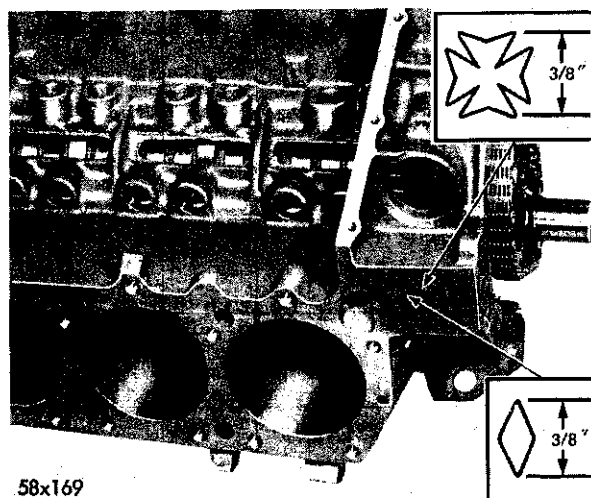
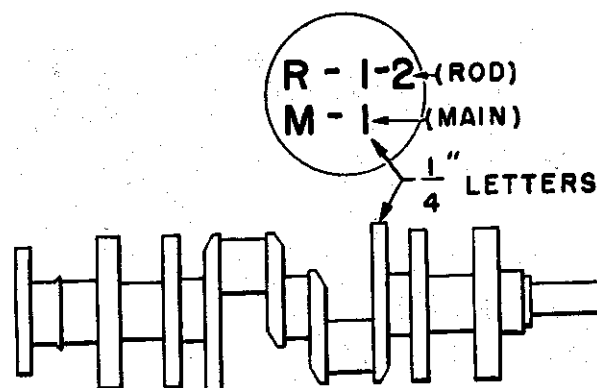

Fig. 43—Showing Location of the External Engine Numbering Pad
Fig. 44—Showing Location of Mark of No. 3 Counterweight
**IMPORTANT:** A Maltese Cross stamped on the engine numbering pad (Fig. 43) indicates that engine is equipped with a crankshaft which has one or more connecting rods and/or main bearing journal finished .001 inch oversize. The position of the undersize journal or journals is stamped on a machined surface of the No. 3 counterweight (Fig. 44).